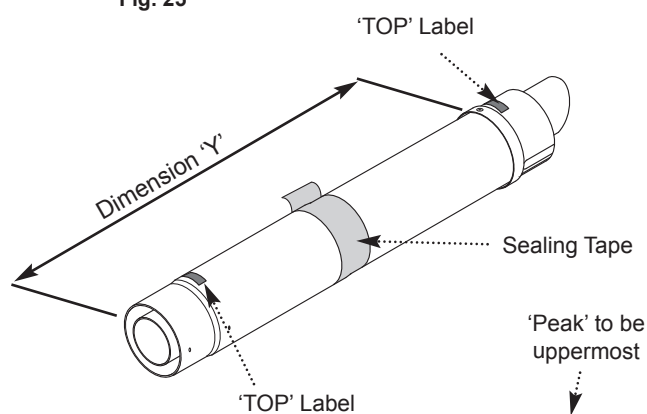

Fig. 26
8. Adjust the two telescopic sections to dimension 'Y' and seal the joint with the tape provided (Fig. 26). Ensure that the labels marked 'TOP' on the Terminal and Connection Assemblies are uppermost.